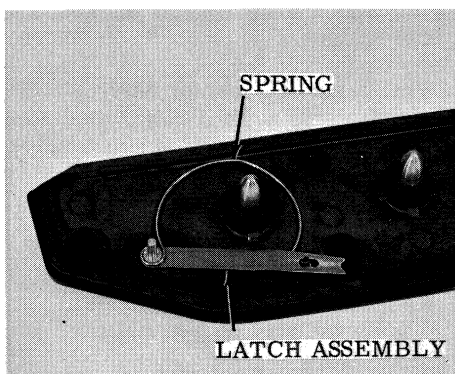

Figure 1. LATCH AND SPRING POSITIONING
1. Cassette cushion (38) must be visually centered in carriage assembly within 3/32" of edge of hinge. Cushion must not overlap holes in carriage or hinge edge.
2. Spindles of lower plate assembly (37) must rotate freely.
3. When replacing spring (36) and latch (35), position on plate assembly (37) with one loop of spring around large diameter of latch stud and other loop below latch and around stud of plate assembly as shown in Figure 1.